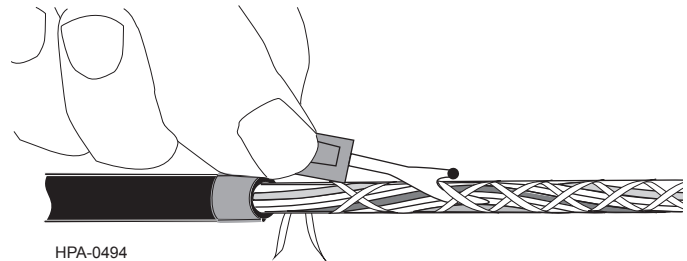

Figure 23
Step 9: Use a seam ripper every 6 in (15 cm) to cut the binding tapes where the two overlap (Figure 23).